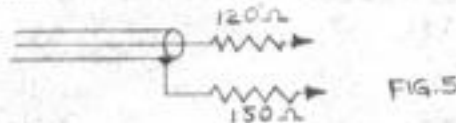

FIG. 5
- b. Connect sweep generator to VHF RF input through resistive pad shown in Figure 5.